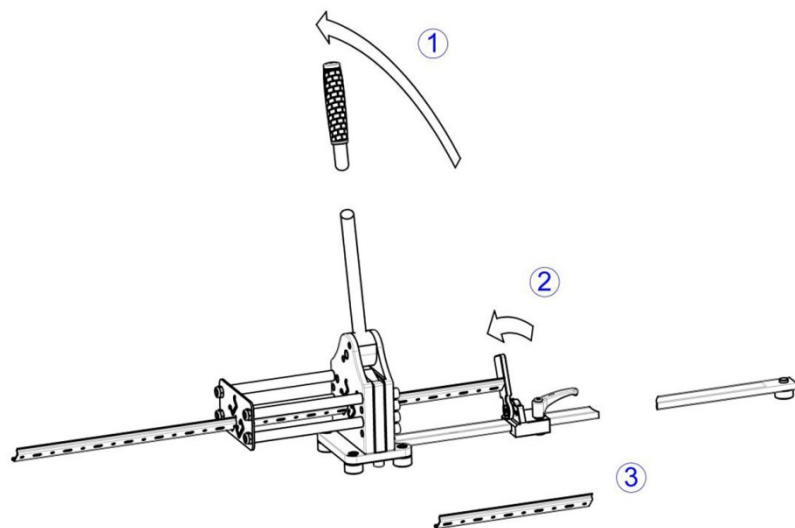

Fig. 8: Support rail removal
- To remove the cut support rail, move the gripping rail backwards fully to its initial position (fig. 8, item 1).
- Depending on the length of the workpiece, it might be necessary to swivel the stop flap to the side (fig. 8, item 2); then remove the completed profile.